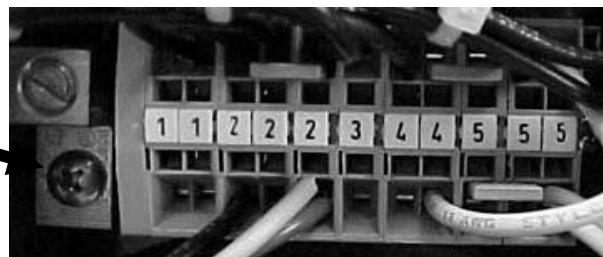

Figure 5.
2. Attach the **Line voltage wire to the Common terminal of the Pressure Disconnect switch**, and the **Neutral lead to the first Terminal-4 slot**. Connect the **Ground wire to the ground lug**. (see Figures 5 below).